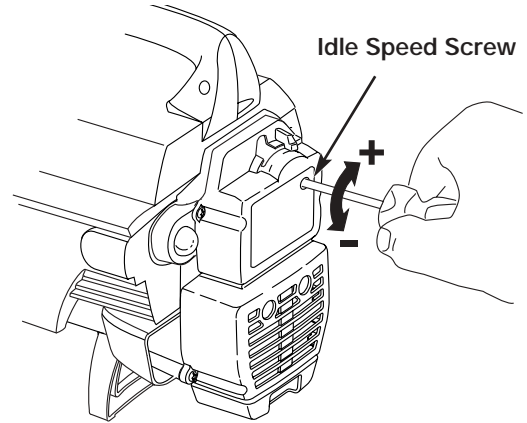

Fig. 27
The idle speed of the engine is adjustable through the air filter/muffler cover (Fig. 27).
3. Move the throttle control and let the engine idle. If the engine stops, insert a small phillips or flat blade screwdriver into the hole in the air filter/muffler cover (Fig. 27). Turn the idle speed adjuster in, clockwise, 1/8 of a turn at a time (as needed) until the engine idles smoothly.